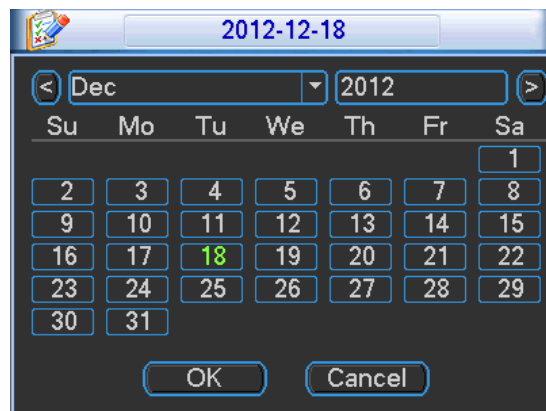

Figure 3-38
- Holiday setup: Click it you can see an interface shown as in Figure 3-38. Here you can set holiday date. Please go to chapter 3.5.3 Schedule to view or set the holiday date record setup.